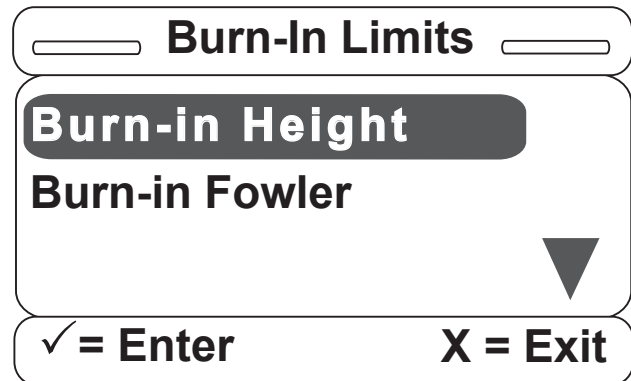

Figure S-32
30. Once the Burn-in item is selected, the screen in Figure S-32 will be displayed. The Burn-in Height item will walk the user through the burn-in height routine; and, similarly, the Burn-In Fowler item will walk the user through the burn-in fowler routine.